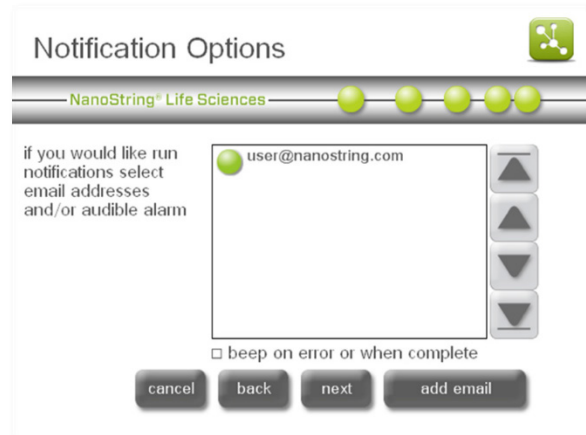

Figure 31: The 'Notification Options' screen.
- The 'Notification Options' screen will appear (Figure 31).